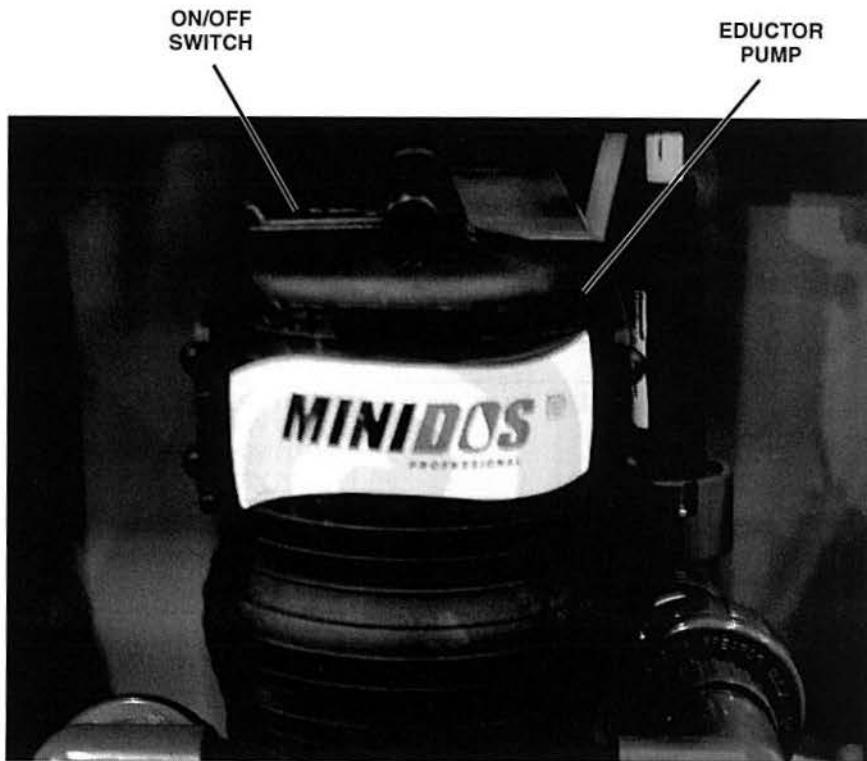

Figure 37. On/Off Switch on Eductor Pump
- 5. Toggle to the setpoint (SP) display and set it to **7.0**.
- 6. Make sure the On/Off switch on the eductor pump, shown in figure 37, is in the On position.